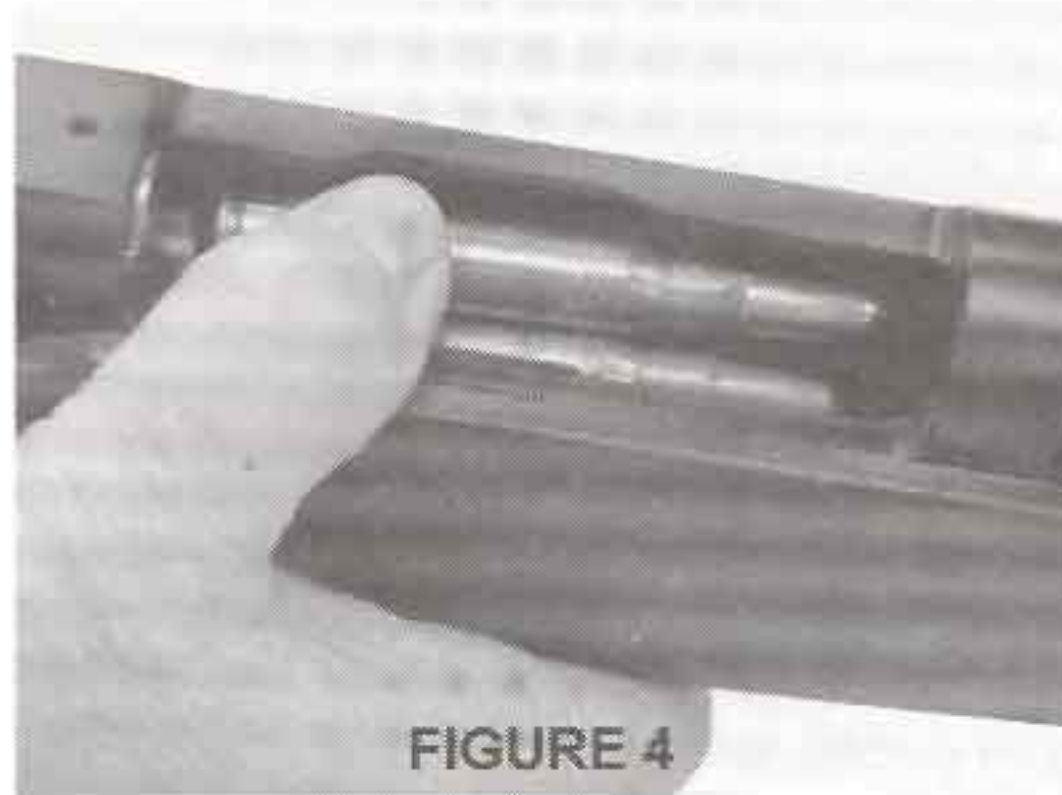

FIGURE 4
5. As shown in FIGURE 4, load the correct caliber cartridges (see Section 7) into the magazine by pressing downward and to the rear.